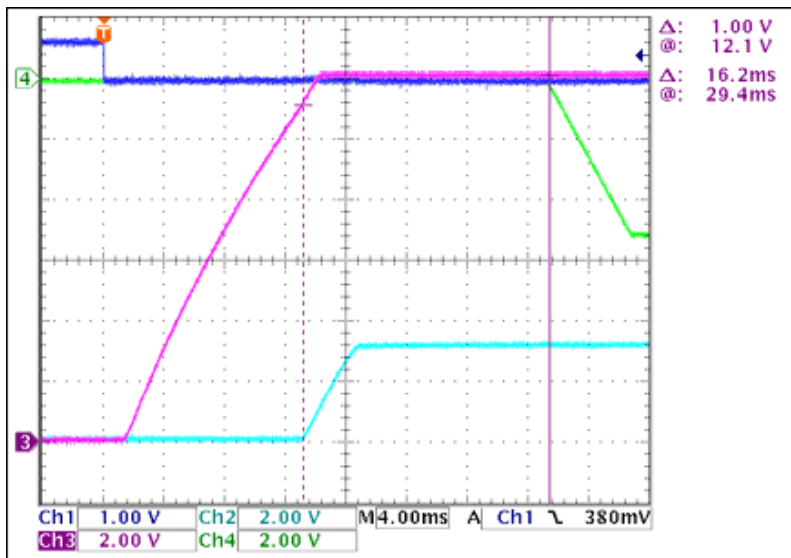

Figure 3. +3.3V to -5V turn-on delay, no load
-5V delay from +3.3V channel = 16.2ms (see **Figure 3**)